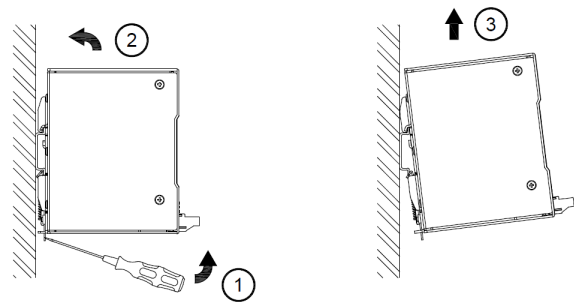

Fig. 2.2 Dismounting
5. To uninstall, pull or slide down the latch with screw driver as shown in Fig. 2.2. Then slide the power supply unit (PSU) in the opposite direction, release the latch and pull out the power supply unit (PSU) from the rail.